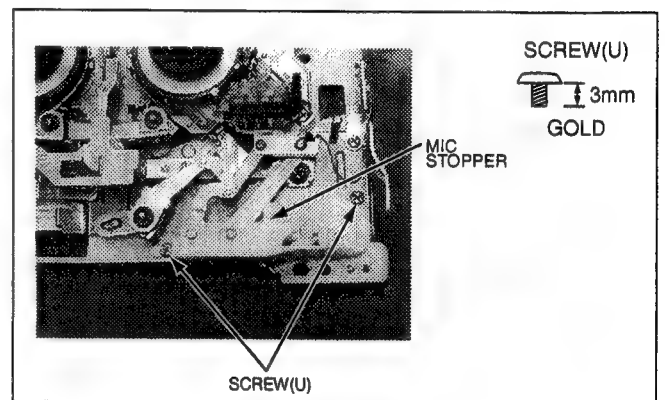

Fig. M-36
- Fig. M-36 Unscrew 2 screws (U) and remove the MIC Stopper.